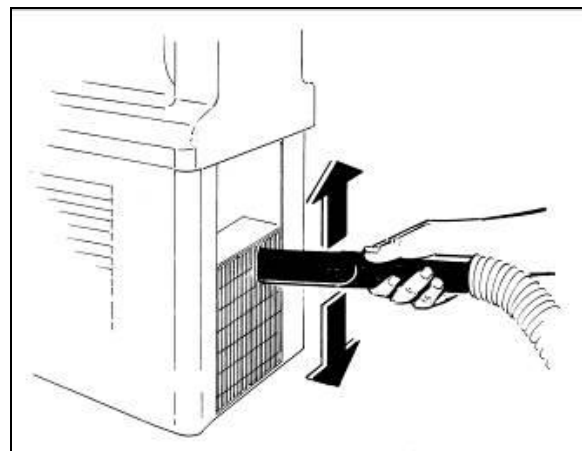

Fig. 47
- Using a dust exhauster, remove the dust that has collected between the condenser fins (fig.47).